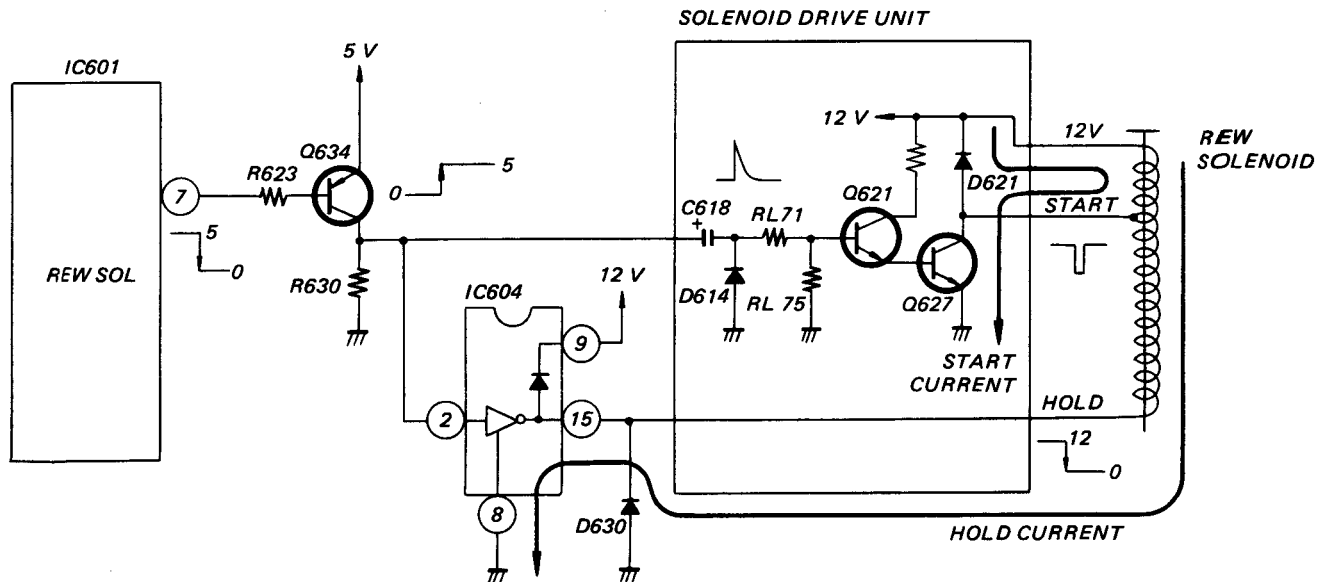

Fig. 3-78 Rewinding Solenoid Drive Circuit
The rewinding solenoid is taken for explanation as the typical solenoid (see Fig. 3-78). If the VCR is set into either of the rewinding or review mode, pin 7 on IC601 changes from the high level to low. This turns Q634 on, the collector of which steps up to 5 V. It is applied to C618 and pin 2 on IC604. The 5 V step-up voltage is differentiated through C618, RL71, and RL75. The differentiated pulse turns the Darlington amplifier, consisting of Q621 and Q627, on for a moment, approximately 50 msec.
Further, the encoded signal makes the level at pin 7 (REW SOL) on IC601 go low (L), which turns Q634 on. The collector voltage of Q634 goes to 5 V, which enables the rewinding solenoid to attract the plunger (see Fig. 3-78).